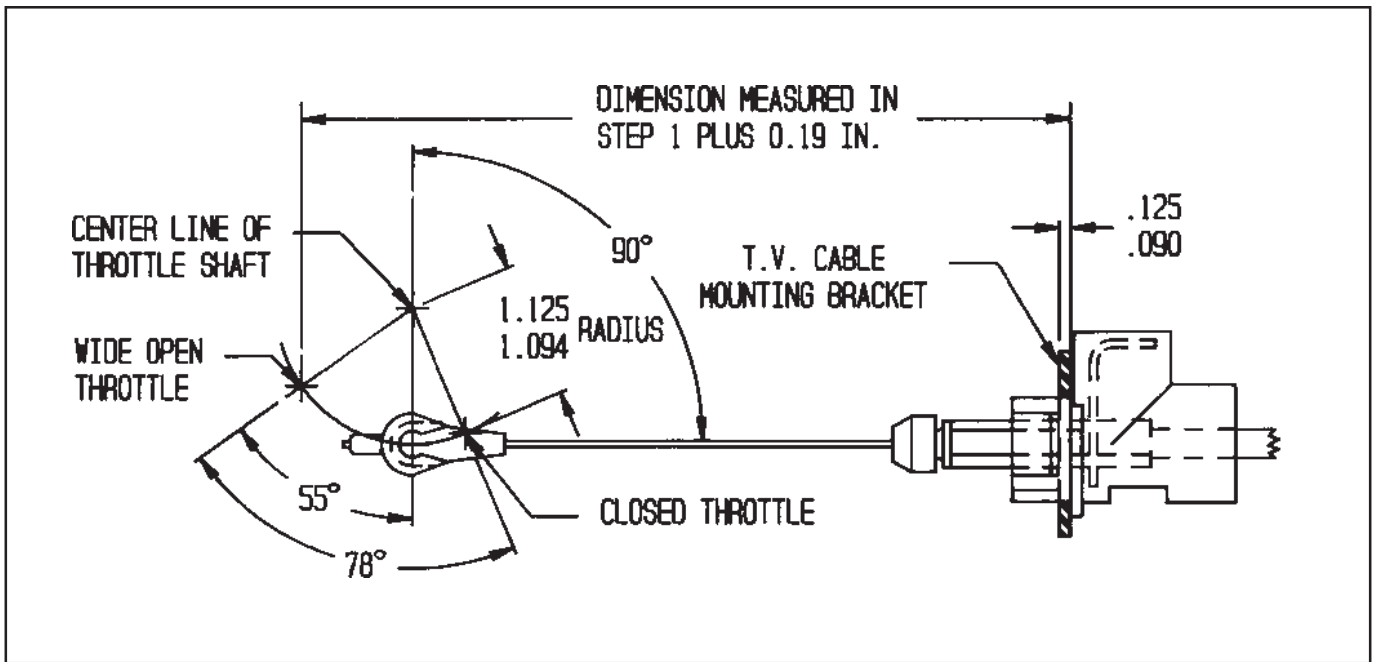

Figure 16
STEP 2. Add 3/16" (0.19 in.) to the measurement obtained in **Step 1**, this is the perpendicular measurement from the REAR FACE of the T.V. cable mounting bracket to the WIDE OPEN THROTTLE position of the T.V. cable connector pin on the throttle bellcrank (See Fig. 16).
STEP 3. The T.V. cable bellcrank must be perpendicular (90 degrees) to the T.V. cable when the throttle is 25 percent (1/4) open (See Fig. 16), this geometric relationship is critical to insure that the T.V. mechanism moves in the correct proportion to the throttle opening. The mounting location for the T.V. cable connector pin will have to be established on the throttle bellcrank at a radius of 1.094 / 1.125 in. There may be a suitable existing hole at the correct radius on the throttle bellcrank, otherwise you will have to fabricate an attachment to the bellcrank that will properly locate the connector pin.